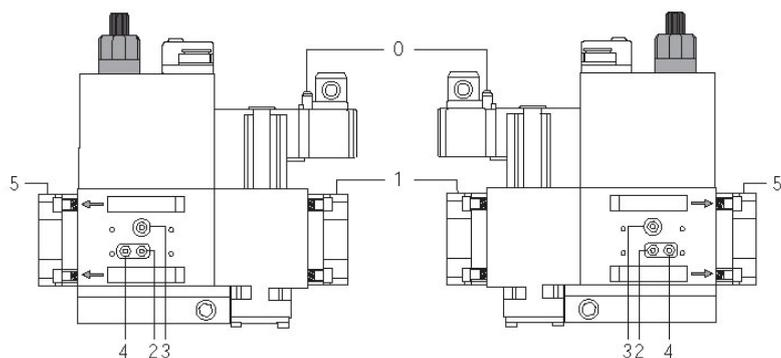
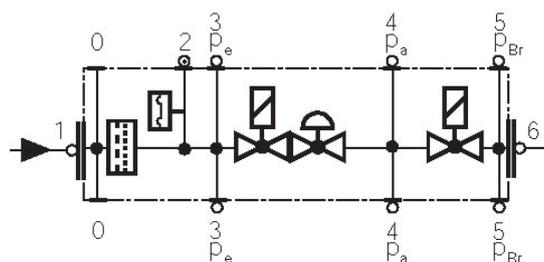

Fig. 1
Fig. 2
- 1 remove the cap unscrewing the fixing screws (A);
- 2 remove the filtering cartridge (B), clean it using water and soap, blow it with compressed air (or replace it, if necessary)
- 4 be sure to replace the "O" ring into its place (C) and replace the cover fastening by the proper screws (A).
- Change the filter if the pressure difference between pressure connection 1 and 2 (Fig. 1-Fig. 2)  $\Delta p > 10$  mbar.
- Change the filter if the pressure difference between pressure connection 1 and 2 (Fig. 1-Fig. 2) is twice as high compared to the last check.